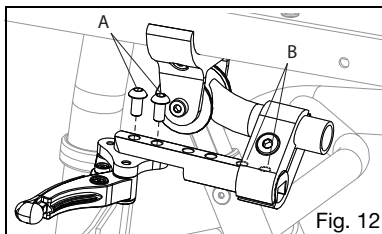

Fig. 12
5. The wheel lock arm can be moved along the different sets of holes on the wheel lock bar for additional adjustability. Use a 4mm Allen wrench to remove the two bolts (Fig. 12:A), then move the bar to the new position and reinstall the bolts. Two of the holes (Fig. 12:B) are shown as dotted lines because their view is obstructed by the clamp.